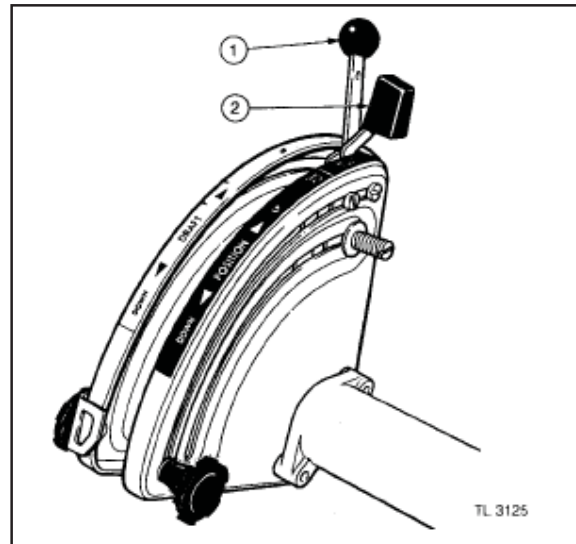

Fig. 62
Draft Control Lever, (1, Fig. 62) in the fully UP position. Position Control Lever (2), placed in the TRANSPORT position against the stop. This will lift the linkage and implement and hold in the raised position.